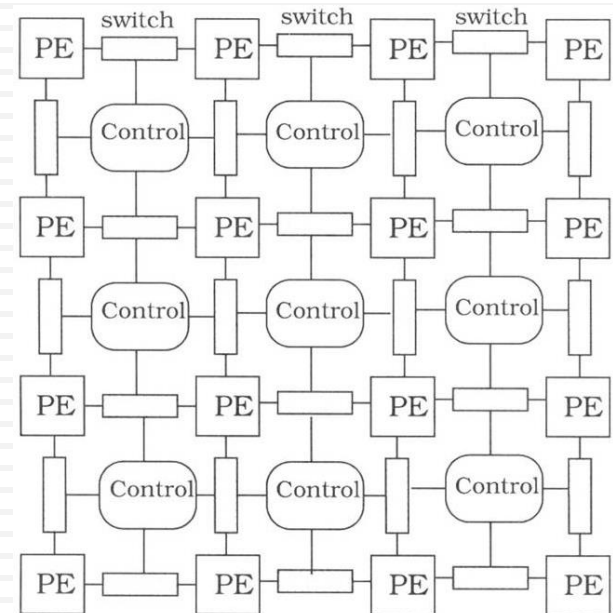

Figure 15.58 Regular patterning in a parallel processing network
- In parallel processing, a PE (processor element) can be as simple as an AND gate, or as a complex as a general-purpose microprocessor (Fig. 15.58)